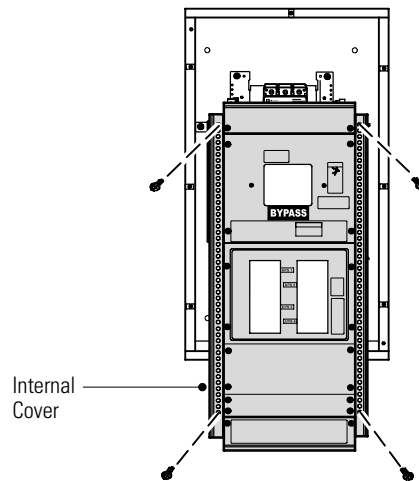

Figure 19. Internal Cover
6. Remove the internal cover to gain access to the breakers (see Figure 19).